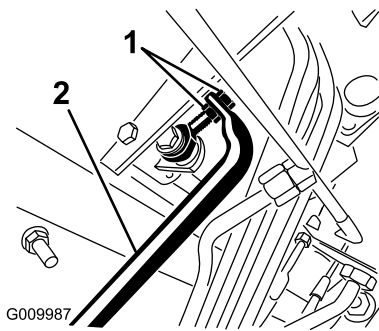

Figure 53
5. Adjust the jam nuts on the pump rod end to move the pump control tube forward to eliminate forward creep or rearward to eliminate rearward creep (Figure 53).